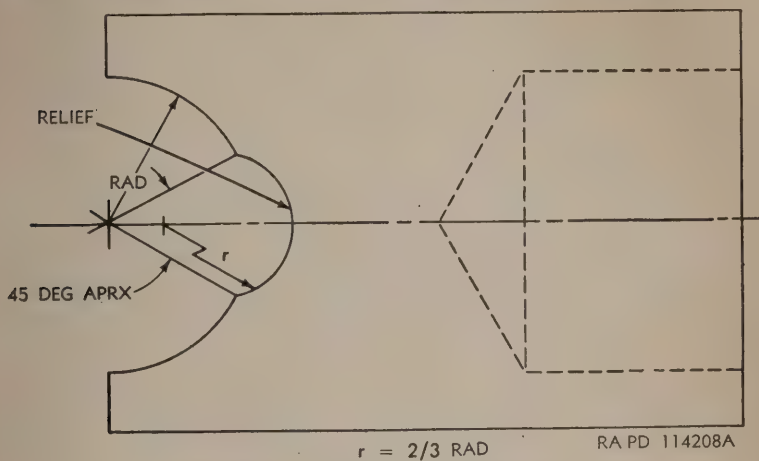

Figure 19. Point of relief for plungers.
a. The worm shaft must fit in the semicircular bearing surface of the plunger without any sideplay. If sideplay is present, this will appear as backlash, as in the case of a loose-fitting plunger. Before lapping in, relieve the center portion of the semicircular bearing, as showing in figure 19. This is done so that the worm shaft will wear itself in deeper, reducing the possibility of developing sideplay.